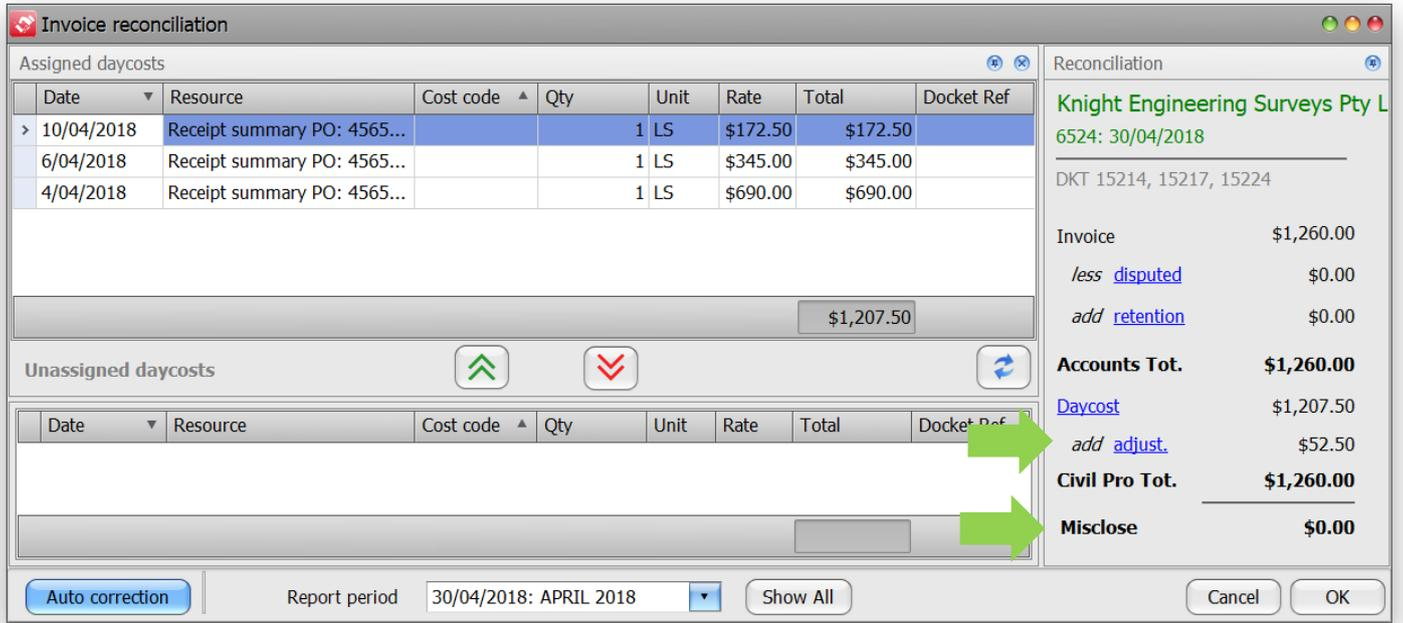

Figure 79 Invoice reconciliation showing daycost correction resulting in no misclose
7. You will be taken back to the Invoice Reconciliation screen. If you look at the summary on the right of the screen you will now see an adjustment of \$52.50 (the correction we just made) added to the reconciliation summary details and now the misclose value is \$0. Click *OK* (Figure 79)